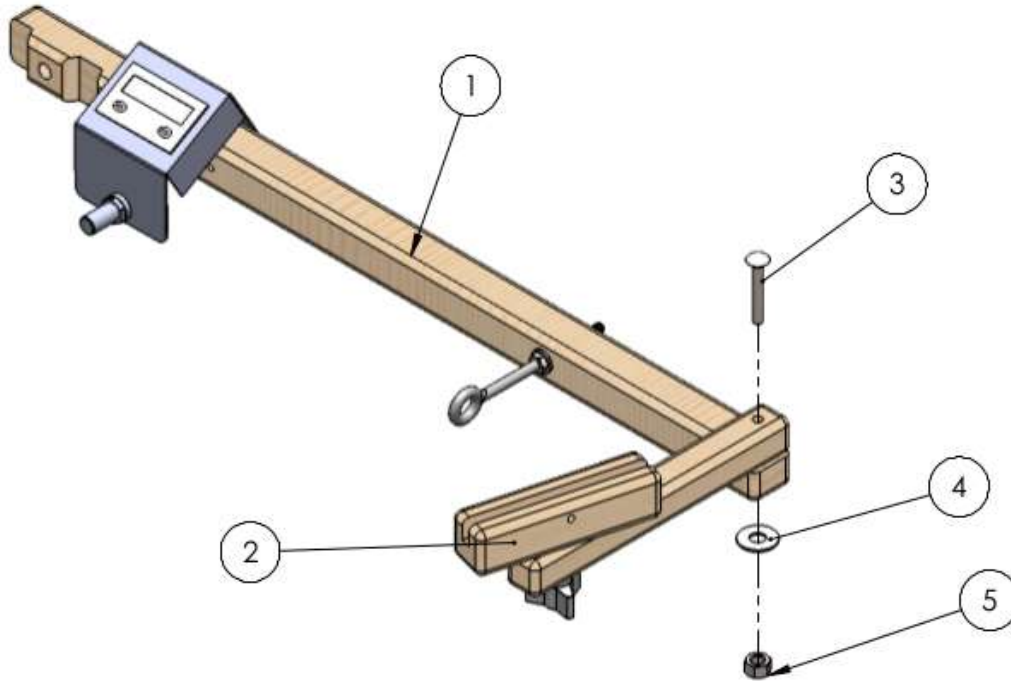

Figure 4 – Raddle Assembly
Mounting the Drum and Raddle Support w/ Adjustable Raddle Holder(Figures 4 and 5)
- 5) Using the 1/4-20 x 2-1/4" carriage bolt (Hardware Pack #3), attach the raddle mount/adjustable raddle holder assembly to the raddle support. Secure with the flat washer and wing nut. (Figure 4)